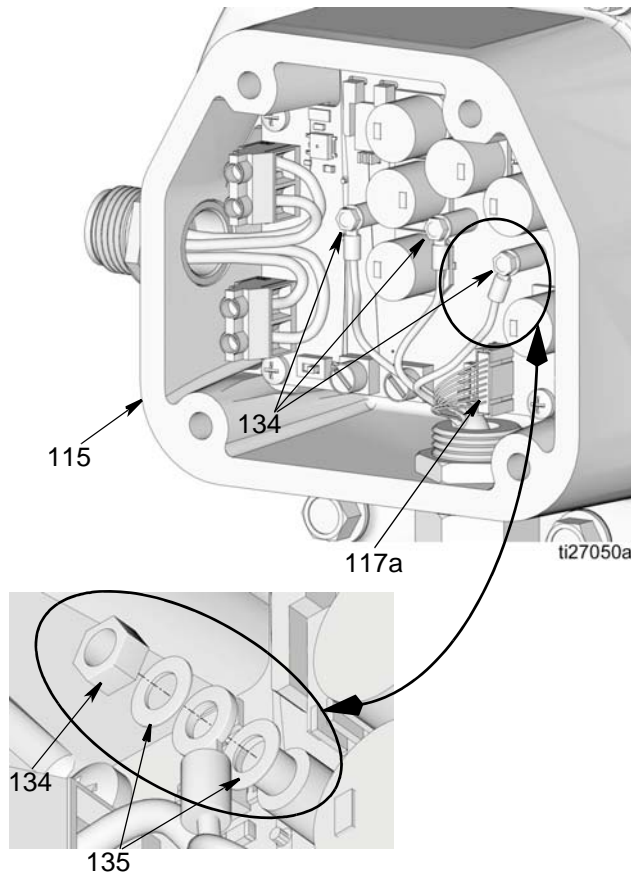

FIG. 56
- Remove nuts (134) as shown in FIG. 56. Remove washers (135) and motor wires from terminals. Save these parts to use them for reassembly.
- Disconnect sensor cable (117a) from motor control board (FIG. 56).